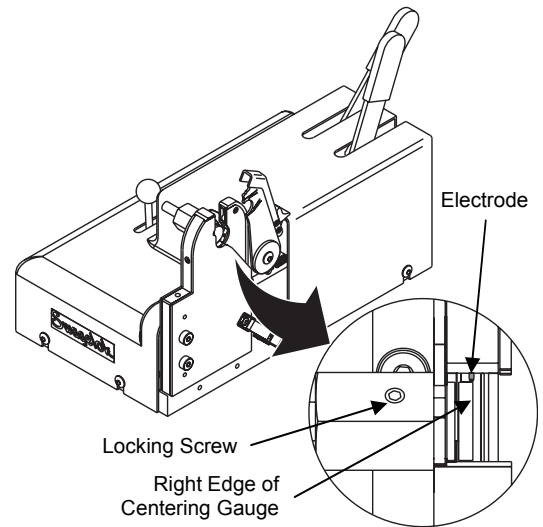

Figure 25 *Adjusting the Centering Gauge*
4. Adjust the centering gauge so that the right edge is centered on the electrode. See Figure 25.